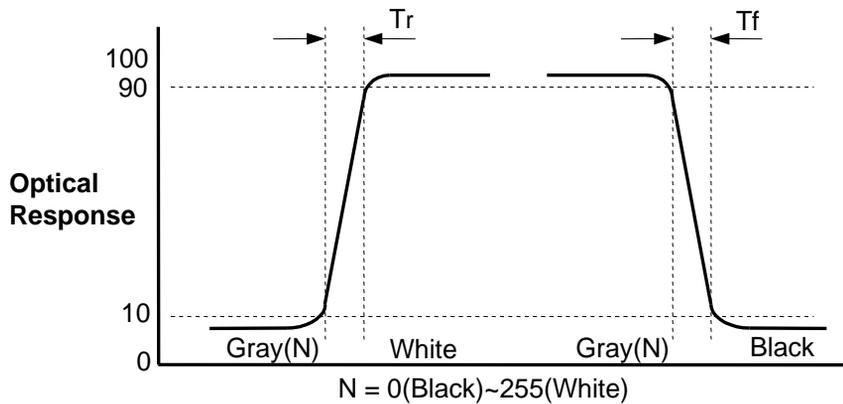

FIG. 3 Response Time
4. Response time is the time required for the display to transit from any gray to white (Rise Time, T_R) and from any gray to black (Decay time, T_D). For additional information see the FIG. 3.